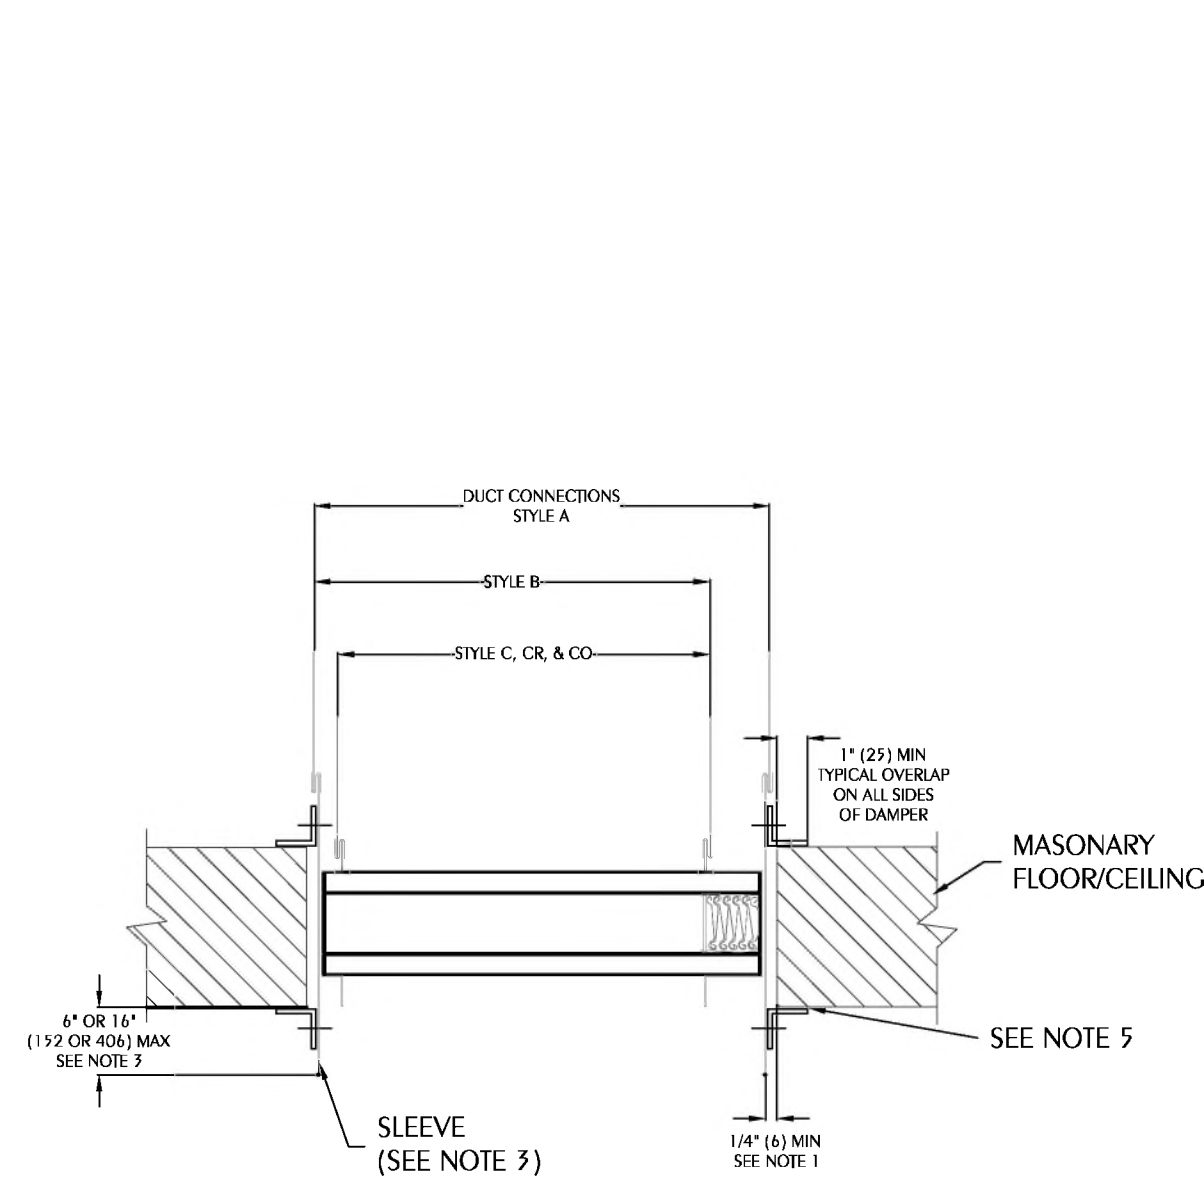

FIGURE 3
- The opening in the wall or floor shall be larger than the damper/sleeve assembly to permit installation or expansion. For two angle installations the opening shall be a minimum of 1/8" per foot (3" per 305') larger than the overall size of the damper/sleeve assembly. The maximum opening size shall not exceed 1/8" per foot (3" per 305') plus 2" (51), nor shall the opening be less than 1/4" (6) larger than the damper/sleeve assembly. For one angle installations, the opening shall be a minimum of 1/4" (6) to a maximum of 1" (25) larger than the overall size of the damper/sleeve assembly. The opening may be as much as 2" (51) larger than the damper/sleeve assembly if a 16ga (1.6) mounting angles is utilized.
- Use No. 10 (M5) bolts or screws, 3/16" (5) rivets, tack welds or spot welds as depicted in figures 3 and 4 and spaced as follows when joining individual dampers to make multiple section damper assemblies or when fastening damper to the sleeve: